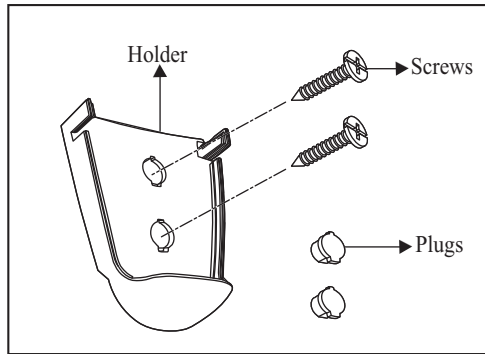

Figure 19
1. Remove the two plugs from the holder. Note that the plugs have unique tabs that allows them to fit only in one hole. (Fig. 19)